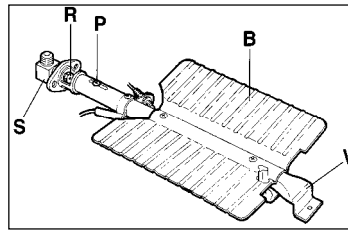

Fig 8
- Unscrew the nozzle **R** (Fig.8) using a 10 mm spanner and replace it with the nozzle needed for the new type of gas according.